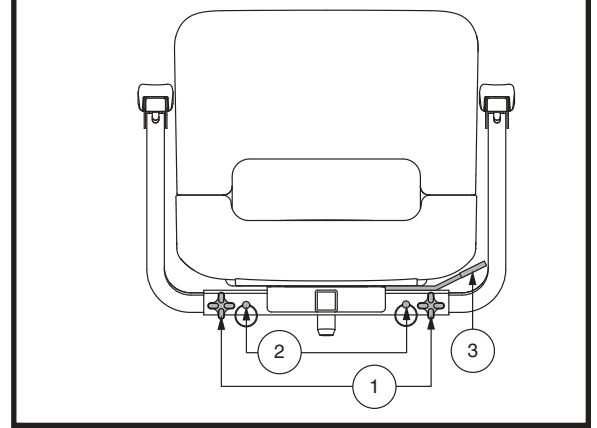

Figure 28. Seat Adjustments
The seat rotation lever, located on the right side of the seat base, secures the seat into several positions. See figure 28.
1. Loosen the armrest adjustment knobs. **See figure 28**